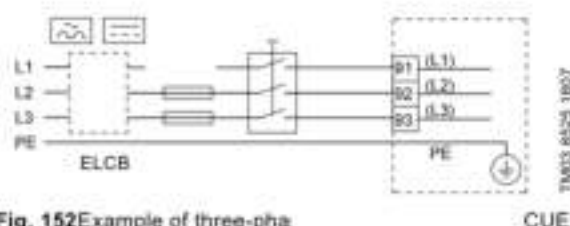

Fig. 152 Example of three-phase with main switch, backup fuses and additional protection
- Leave the screen as close to the connecting terminals as possible. See fig. 152.
A main switch can be installed before the CUE cabinet according to local regulations. See fig. 152.